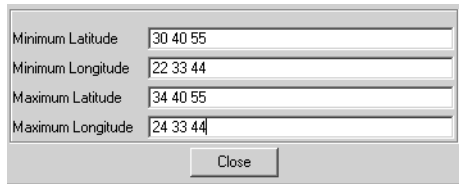

Figure 3-77. Point Limits
- Specify positions for the points limiting the use of this geoid model (Figure 3-77).